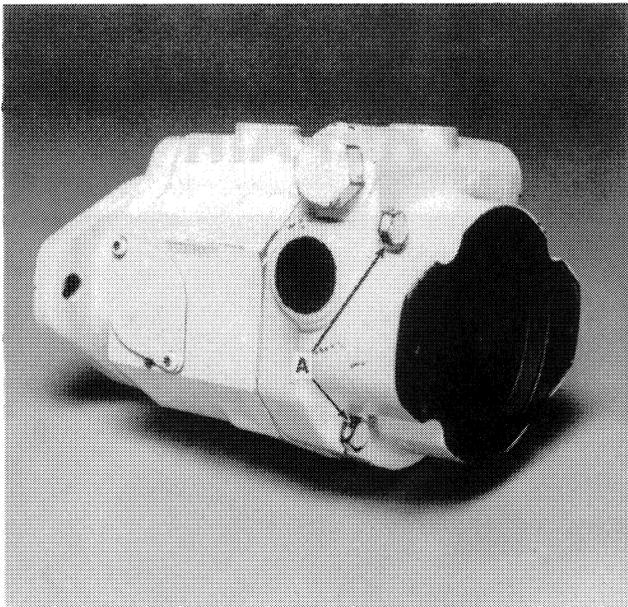
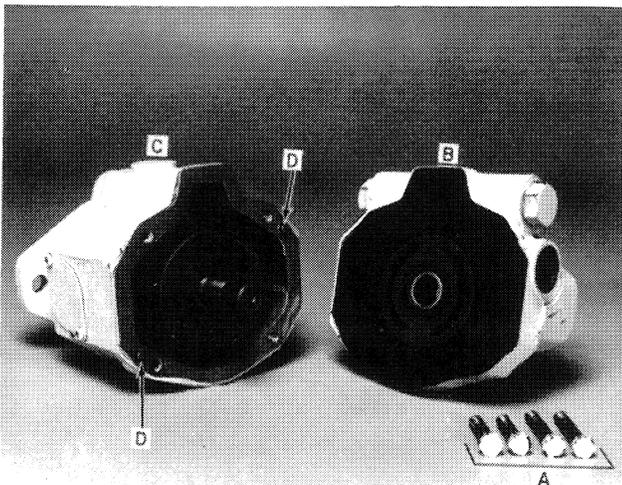

FIGURE 4-4
FIGURE 4-5
5. To separate the valve plate from the pump housing, remove four bolts, A, Figures 4-4 and 4-5, and tap valve plate, B, with a plastic or rubber mallet to separate it from pump housing, C, Figure 4-5.
**NOTE: The pump housing has two alignment dowel pins, D, Figure 4-5.**